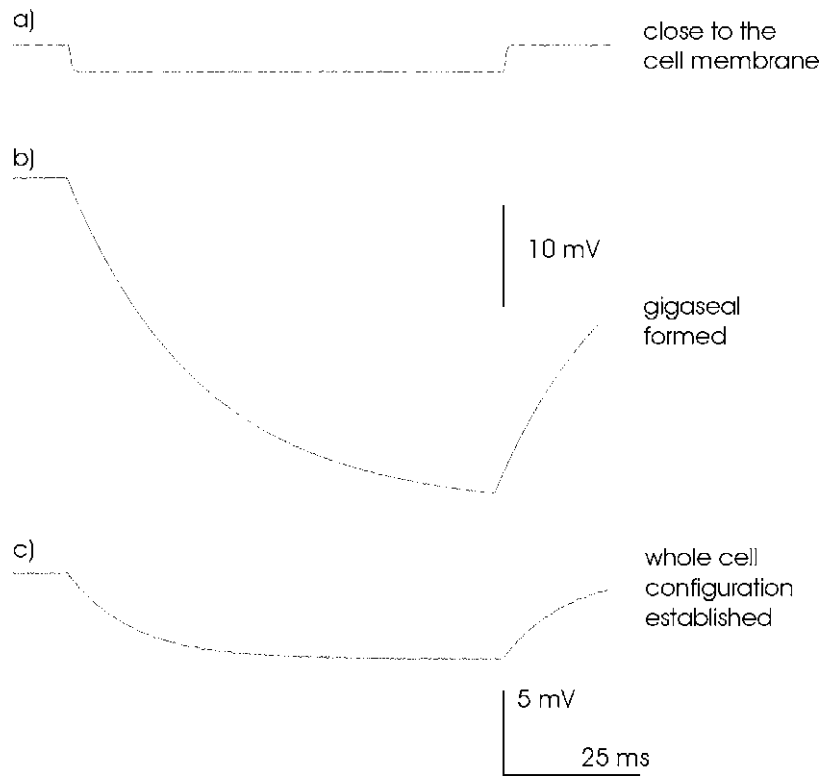

Figure 14: Approaching the cell, forming a gigaseal and establishing the whole cell configuration
- ❑ Approach the cell until the voltage signal changes (**a**, Figure 14). Often you can observe a slight dent in the cell membrane.
- ❑ If the seal does not form apply gentle suction to the pipette until a gigaseal is established (**b**, Figure 14).
- ❑ Apply stronger suction to the pipette or use the BUZZ unit to brake the cell membrane under the pipette and establish the whole cell configuration. The whole cell configuration is established if you see the voltage signal getting smaller again (**c**, Figure 14) and you read the expected membrane potential.